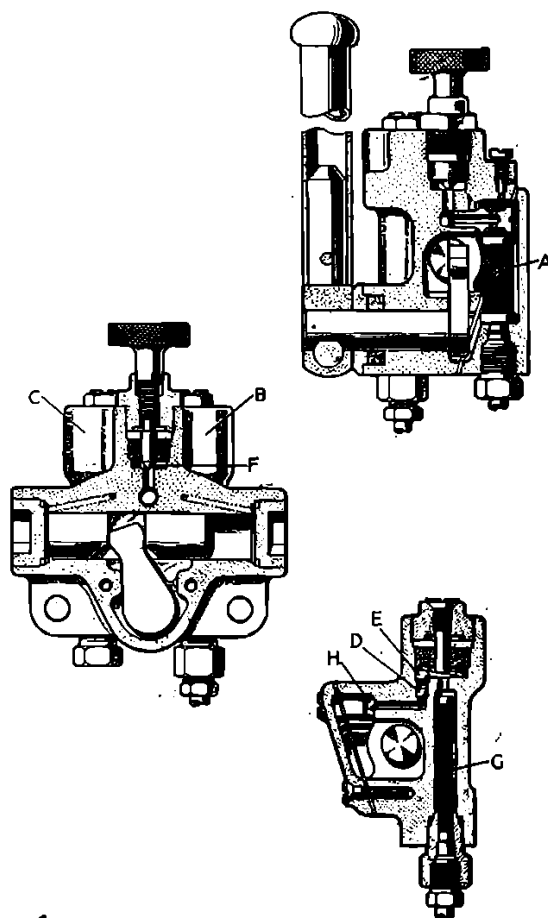

Figure 76. Engine Access Door Jack
Its operation is such that when the pump handle is worked, fluid is drawn from the supply tank through a filter (A) (see Fig. 76) in the pump cover into the pump itself, where it is forced by the action of the handle into valve chambers (B and C), via non-return ball valves (D and E). The ball valves are duplicated in order to prevent any possibility of dirt rendering the pump inoperative. The valve chambers are interconnected into a release chamber (F). By this means the fluid delivered into either valve chamber can pass via the release chamber into the opposite valve chamber.